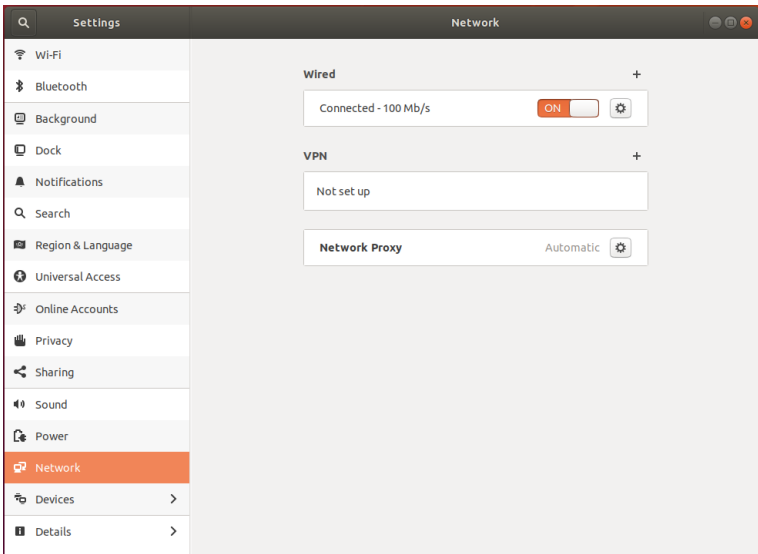

Fig. 4.10: Linux “Wired Settings”
1. Click on top-right network icon, then open the path (**Fig. 4.10**):